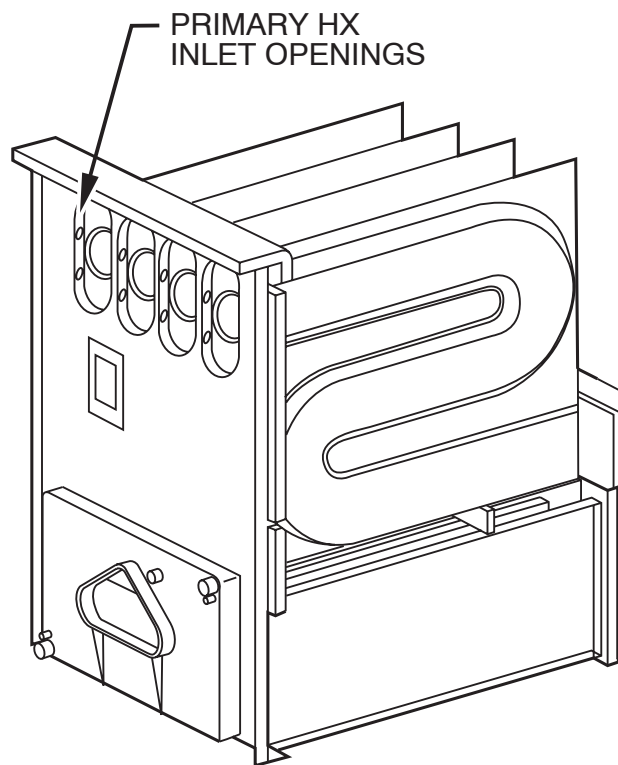

Fig. 8 - Cleaning Inlet Openings of Primary Heat Exchangers
11. Clean heat exchanger openings with a vacuum and a soft brush. (See Fig. 8.) **NOTE:** After cleaning, inspect the heat exchangers to ensure they are free of all foreign objects that may restrict flow of combustion products.
12. Reverse items 4 through 10 for reassembly.